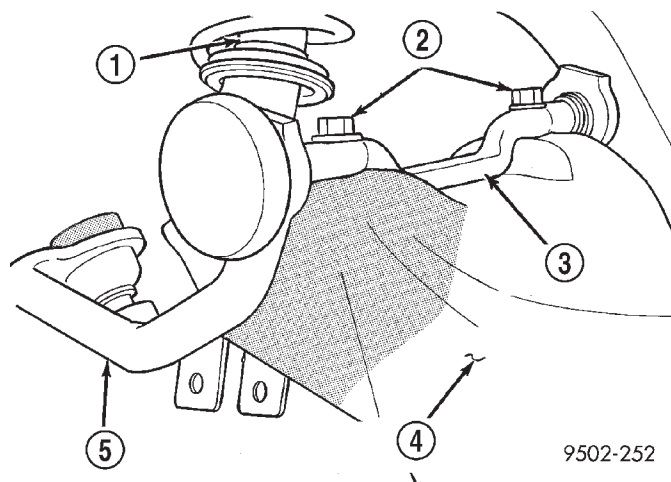
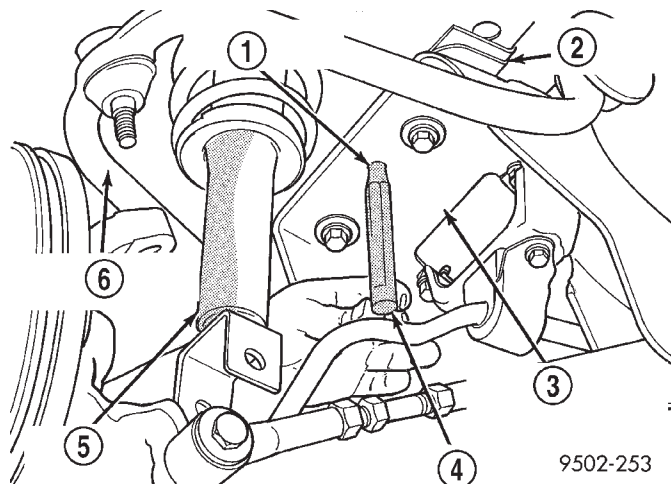

Fig. 8 Upper Control Arm Attachment To Crossmember
Fig. 9 Locating Rear Suspension Crossmember In Vehicle
(10) Lower the rear suspension crossmember enough to access the upper control arm pivot bar to crossmember attaching bolts (Fig. 8).
(11) Remove the 4 bolts (Fig. 8) attaching the upper control arm pivot bars to the rear suspension crossmember. Remove the control arms from the crossmember.
(3) Align the upper control arm pivot bars with the mounting holes in the rear suspension crossmember. Install the pivot bar attaching bolts and washers. Tighten the 4 pivot bar to crossmember attaching bolts (Fig. 8) to a torque of 107 N·m (80 ft. lbs.).
(4) Using transmission jack, raise rear suspension crossmember up to the rear frame rails and loosely install the 4 attaching bolts.
(5) Position a drift of the appropriate size into the positioning hole in each side of rear suspension crossmember and locating holes in the frame rail of the body. (Fig. 9). This is required to properly position the rear suspension crossmember side-to-side and front-to-rear on the body of the vehicle. Then tighten the 4 crossmember to frame rail attaching bolts to 107 N·m (80 ft. lbs.). Remove drifts from rear suspension crossmember.
(6) Align lateral links with knuckles and install the lateral arm to knuckle attaching bolts and washers. Tighten the 4 lateral arm to knuckle attaching bolts to a torque of 107 N·m (80 ft. lbs.).
(7) Remove transmission jack supporting rear suspension crossmember.